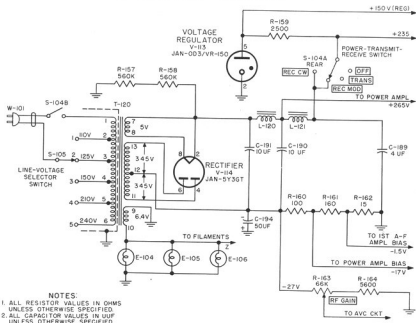

Figure 23. Rectifier and voltage regulator, simplified schematic diagram.
48. Power Supply Stage V-114 (fig. 23)